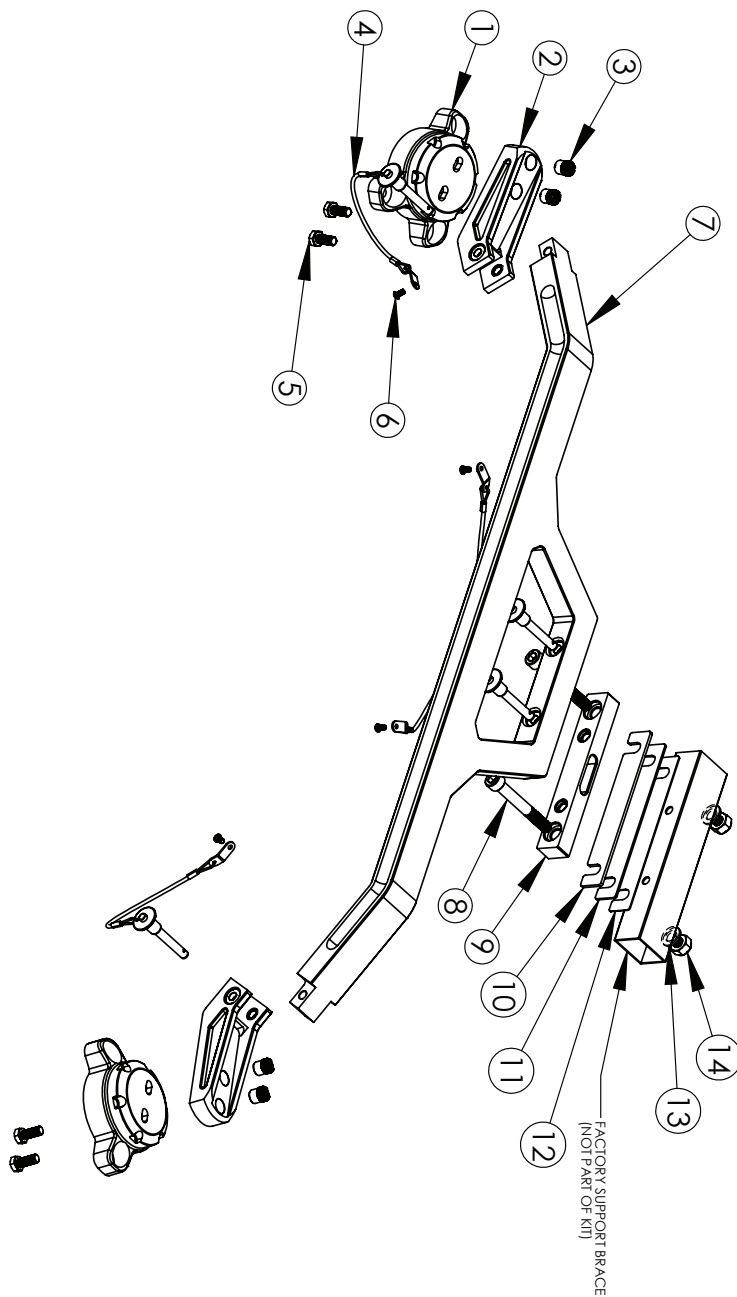

Figure 15
1. Remove all components from the box and make sure everything is there. **See Figure 15 (Page 3)**